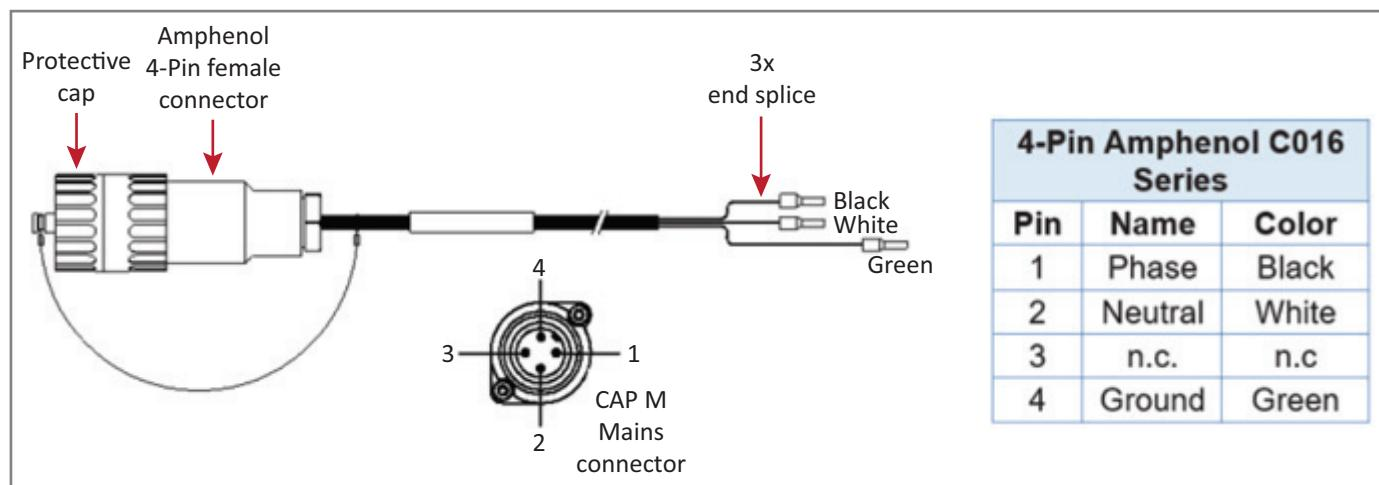

Figure 17. CAP MX AC Power Cable
The AC power cable is a 3.2 m (10.5 ft) 16 AWG cable with a 4-pin Amphenol C016 series plug on one end to connect to the CAP MX Mains connector. The other end of the cable is unterminated with 3 end splices to connect to the AC power source. A 10 m (33.7 ft) AC power cable is also available as an option. The AC power cable is shown in Figure 17.
- Figure 17 on page 60 for the AC power cable